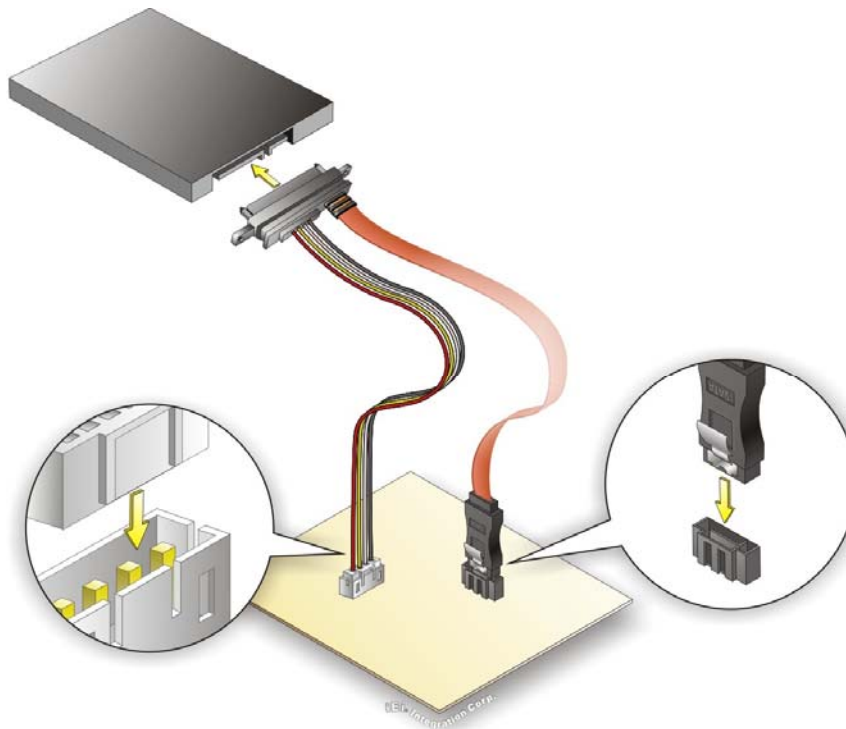

Figure 4-11: SATA Drive Cable Connection
Step 2: Insert the cable connector. Insert the cable connector into the on-board SATA drive connector and the SATA power connector. See **Figure 4-11**.
Step 3: Connect the cable to the SATA disk. Connect the connector on the other end of the cable to the connector at the back of the SATA drive. See **Figure 4-11**.